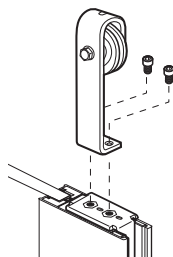

Figure 13
Line up the holes on the Roller Bracket (O) with the U bracket (G) and secure with the 2 allen screws. Repeat with the other Roller bracket (O). See Figure 13.